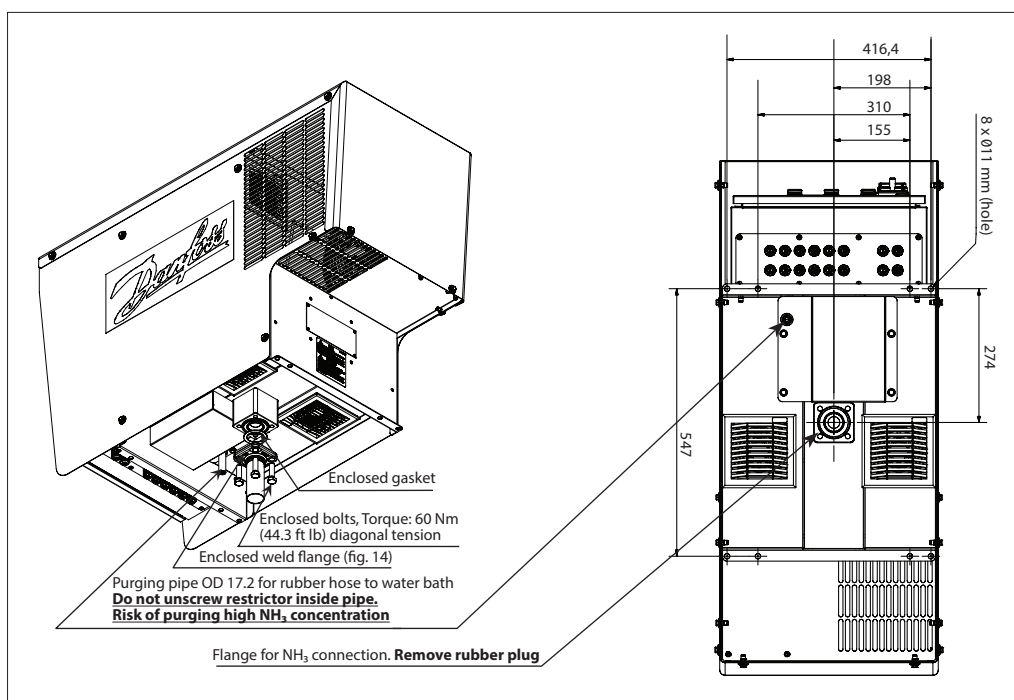
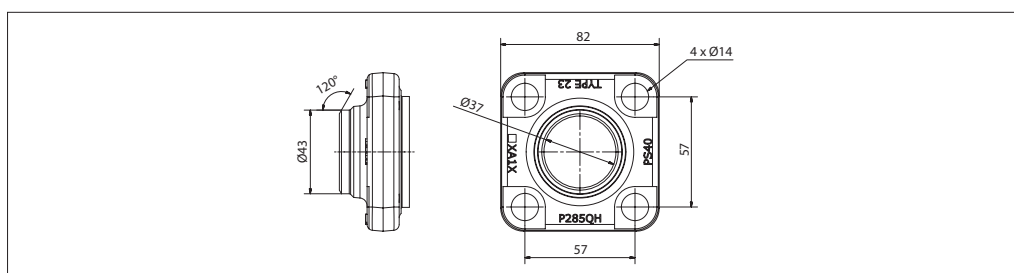

Fig. 13 Ammonia connection
Fig. 14 Enclosed weld flange
1. Prepare the ammonia pipework with the weld flange according to Fig. 13 and Fig. 14. The main/drain piping should never be smaller than inner diameter Ø37 mm (1.5 in).
Remove the rubber plug from the flange opening. See Fig. 13.